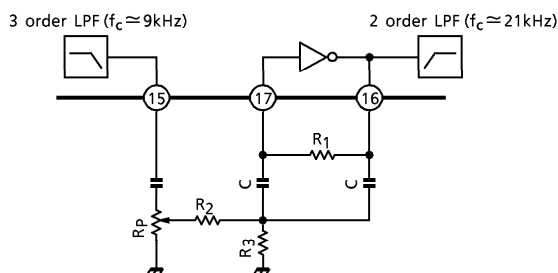

Fig.4
NOISE FILTER AMP can construct BPF as Fig.4. Setting constants follow as below equation (1)~(3).